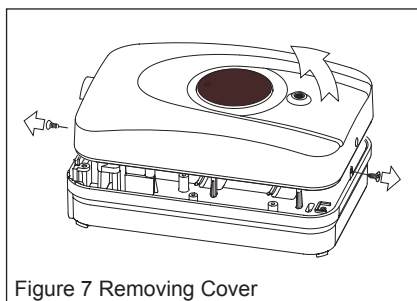

Figure 7 Removing Cover
- 5.3 Unscrew the retaining screws and lift the cover from the back plate - see Figure 7 below.